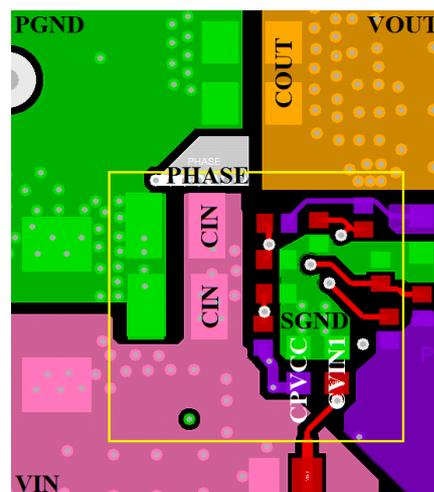

Figure 3. Layout Example - Bottom Layer
5. Place the PVCC and VIN1 bypass capacitors underneath the PVCC and VIN1 pins and connect their grounds to the SGND. For the external pin-strap resistor dividers connected to PROG1, PROG2, PROG3, and PROG4, connect the low side dividers' ground to the SGND. If a local decoupling capacitor is used to bias these resistor dividers, place the decoupling capacitor close to the dividers and connect the capacitor's ground to the SGND. An example layout is illustrated in Figure 3.